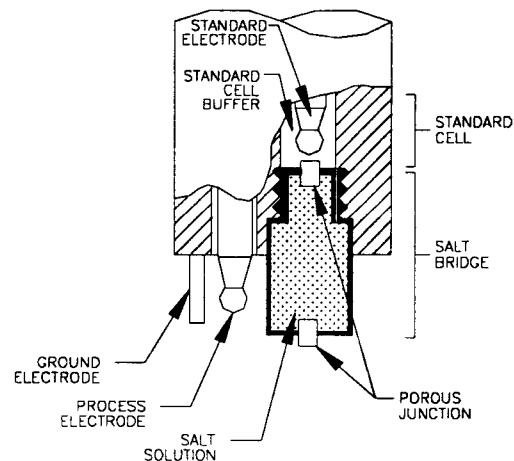

FIGURE 4-1 Sensor Electrode Details
The sensor operates in principle as if it contained two "batteries" whose voltages are measured and transmitted by electronic amplifiers. One battery is formed by the ground electrode and the glass process electrode. The voltage of this battery is a function of the solution pH. The other battery is formed by the same ground electrode and the standard electrode which contains a pH electrode in a chemical standard of fixed pH value (see Figure 4-1). The voltage of the second battery is subtracted from the voltage of the first battery. The result is a differential pH measurement, the final signal being that of a pH electrode in the process compared to a pH electrode in a chemical standard solution.
1. Hold sensor in upright position and remove the hex-shaped salt bridge (Figure 4-1) by turning it counter-clockwise with a 9/16" socket or nut driver to initially loosen it. Take care not to damage the protruding process electrode. Discard the old salt bridge.